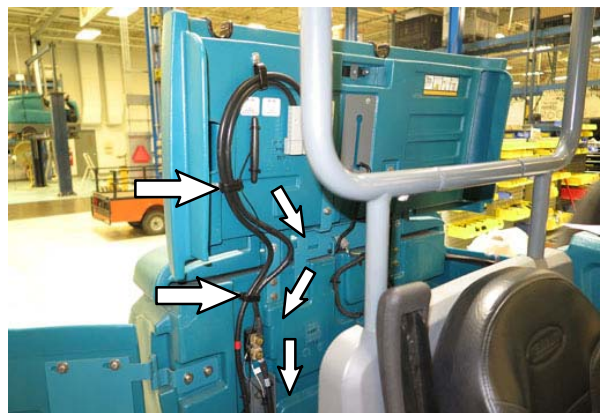

FIG. 21
23. Route the antenna (8) wire through the cable clamps (21), along the main battery cable (15) / telemetry harness (14), and to the telemetry control box (1). (Fig. 21)